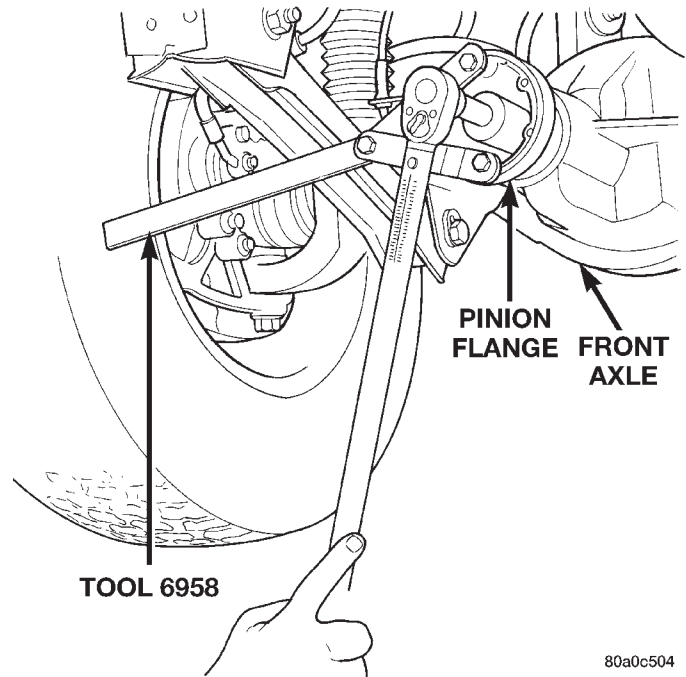

Fig. 15 Tightening Pinion Shaft Nut
(5) If the rotating torque is low, use Holder 6958 to hold the pinion yoke (Fig. 15), and tighten the pinion